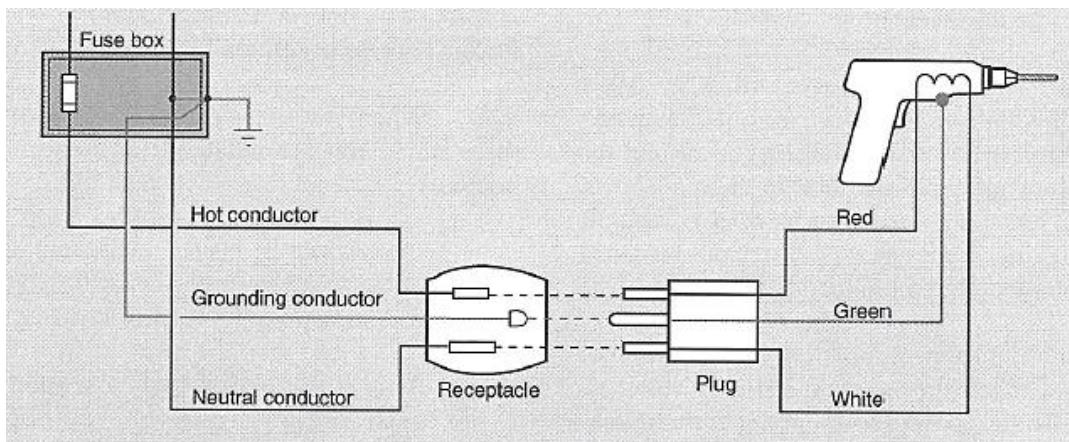

Figure 3.3: Three-wire plug and Receptacle
- 3-23 Electrically powered portable tools and other portable equipment require a more involved procedure to ground them and make them safe. Most portable power tools have three wires in the line cord and come equipped with three-prong plugs, as shown in Figure 3.3. The third wire is a grounding wire connected to the metal housing of the tool. If there is a short circuit to the housing of the tool, this wire carries the current to ground. The fuse blows, but the worker feels little or nothing. You can see how this arrangement works by comparing Fig. 3-4A and Fig. 3-4B, on the following page. When using these tools, it is necessary only to provide three-slot receptacles that are reliably grounded.